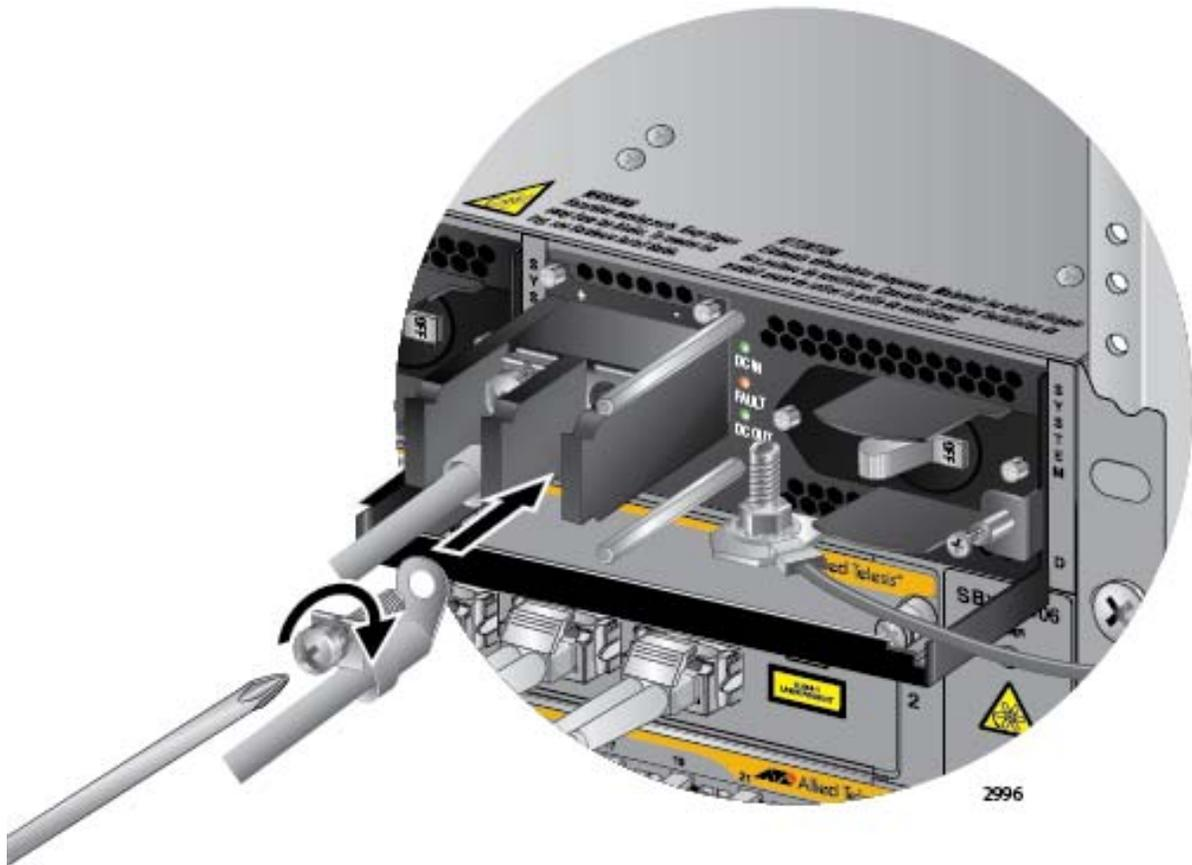

Figure 127. Connecting the Negative (-) Power Wire with a Right Angle Terminal
7. With a #3 Phillips-head screwdriver, connect the negative (-) power lead wire to the negative terminal on the power supply, with the remaining terminal screw removed in step 5. The negative terminal is on the right. Refer to Figure 127 on page 171.